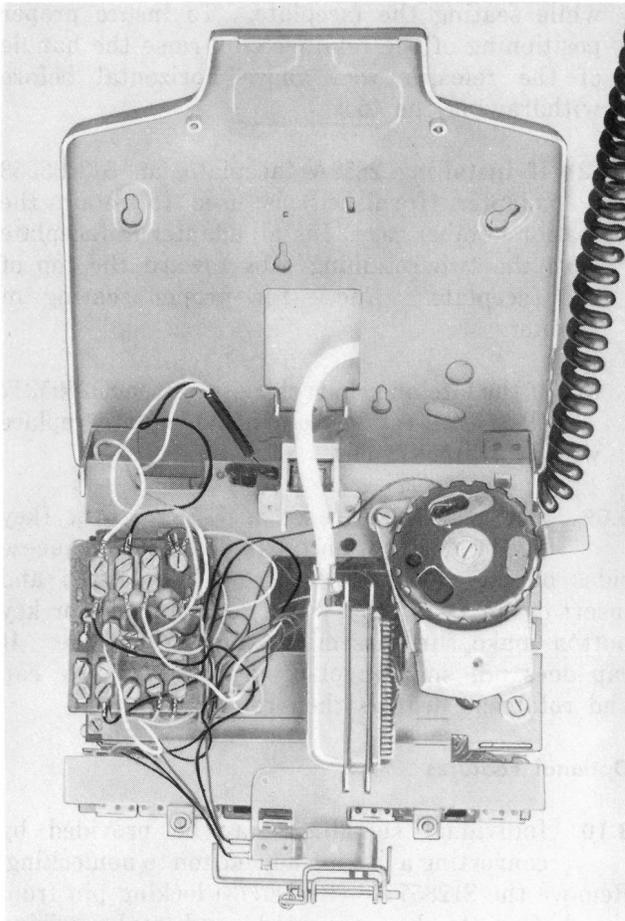

Fig. 2—852- or 2852-Type (Early Version) Telephone Set with Hinged Chassis Lowered
- Telephone set termination by means of connector (Fig. 2, 3)